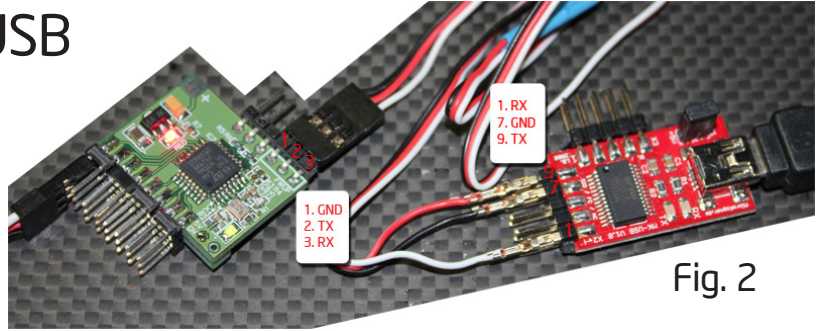

Fig. 2
1. Using a servo cable or similar, connect converter to MK-USB as shown in Fig.2.